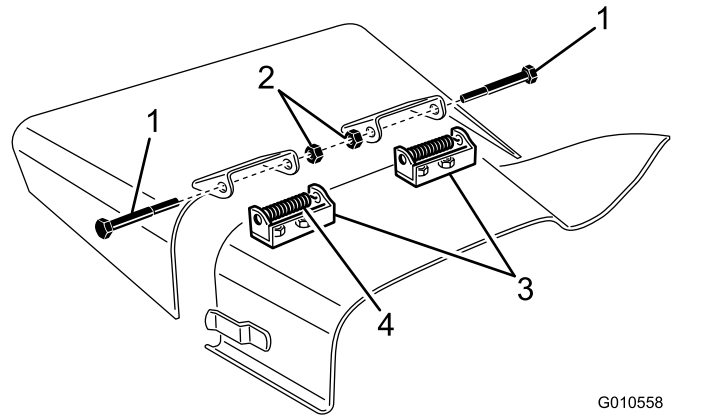

Figure 31
4. Remove the 2 capscrews, locknuts, and springs that secure the deflector mounts to the pivot brackets (Figure 31).
5. To remove the pivot brackets, remove the carriage bolts and nuts (Figure 31).